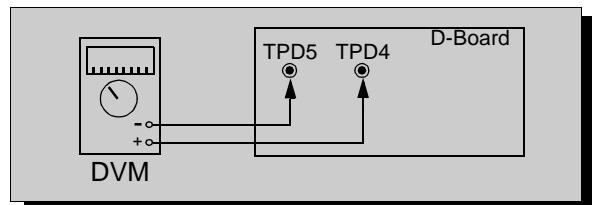

Figure 4. DVM connected to D-Board.
4. Connect a H.V. meter (static type, class 0.1) with high voltage leads to high voltage distributor on FBT. (See Figure 4)